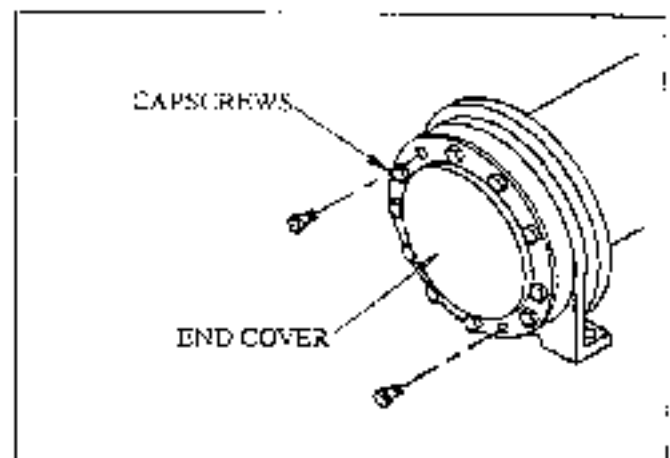

Figure 29
7. Coat the mating surfaces of the ring gear and cover with liquid gasket. Install the cover and twelve capscrews. See Figure 29.